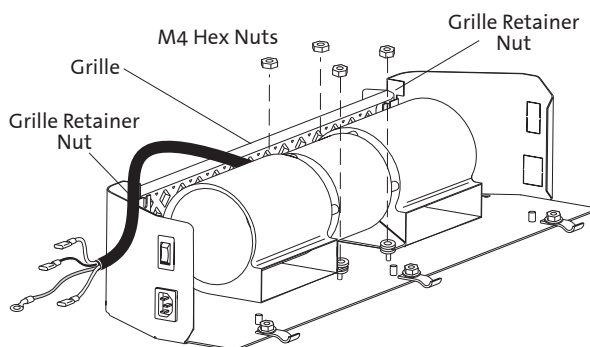

Figure 15. Attach the Blower to the Extension Base plate.
- 2. Remove the Front Grille** from the Hearth Extension to provide better access to install the blower. Use the 8mm wrench to loosen the two retainer nuts (fig. 15) and lift the grille from the extension base.
- 4. Attach the Blower:** Use a 7 mm wrench or long socket to attach the Blower to the Extension Base using the four M4 nuts as illustrated in fig. 15. **Do not overtighten.** Be sure to orient the blower as shown with the ducts facing to the rear.